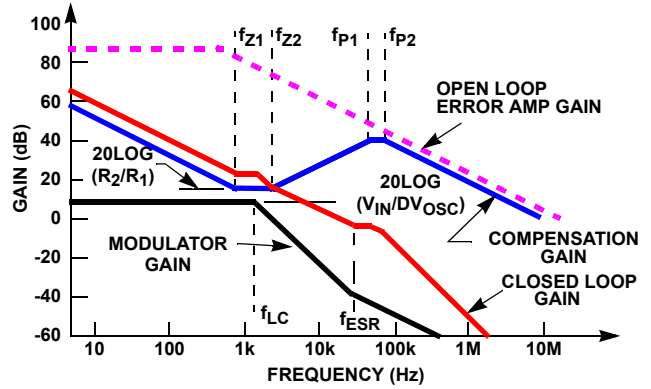

FIGURE 48. ASYMPTOTIC BODE PLOT OF CONVERTER GAIN
Figure 48 shows an asymptotic plot of the DC/DC converter's gain vs frequency. The actual Modulator Gain has a high gain peak due to the high Q factor of the output filter and is not shown in Figure 48. Using the guidelines provided should give a Compensation Gain similar to the curve plotted. The open loop error amplifier gain bounds the compensation gain. Check the compensation gain at f_{p2} with the capabilities of the error amplifier. The Closed Loop Gain is constructed on the graph of Figure 48 by adding the Modulator Gain (in dB) to the Compensation Gain (in dB). This is equivalent to multiplying the modulator transfer function to the compensation transfer function and plotting the gain. The compensation gain uses external impedance networks Z_{FB} and Z_{IN} to provide a stable, high bandwidth (BW) overall loop. A stable control loop has a gain crossing with -20dB/decade slope and a phase margin greater than $+45^\circ$. Include worst case component variations when determining phase margin. A more detailed explanation of voltage mode control of a buck regulator can be found in Tech Brief TB417, entitled "Designing Stable Compensation Networks for Single Phase Voltage Mode Buck Regulators".